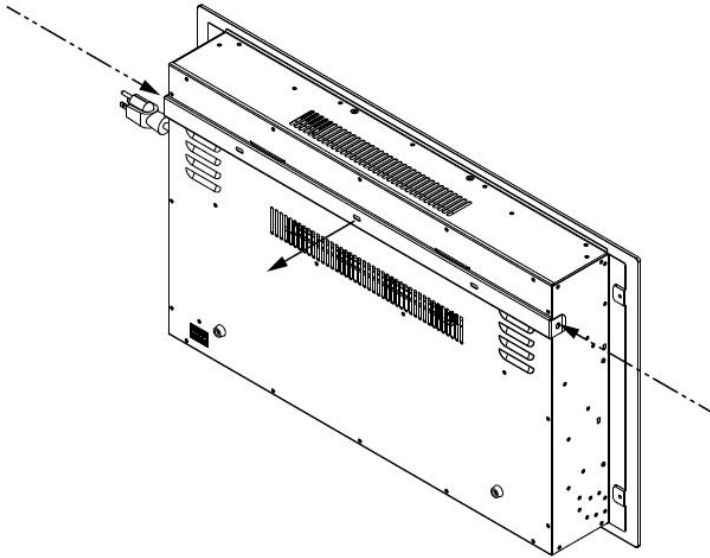
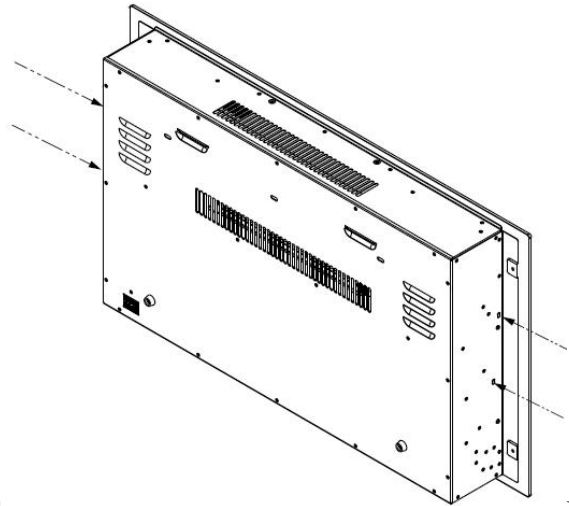

Fig.1
Fig.2
C. Place unit face down on a soft, non abrasive surface. Remove the bracket from the back of the unit by removing the screws, refer to Figure 1. Remove four pcs of silver screws at both sides, refer to Figure 2.
- B. If your fireplace come with lotset, remove the logset from the package, put it to the fireplace designed place. Figure 1.
- D. Then carefully place crystal embers into the bottom tray on the front of the appliance as illustrated. Apply an even layer from side to side. Figure 2.